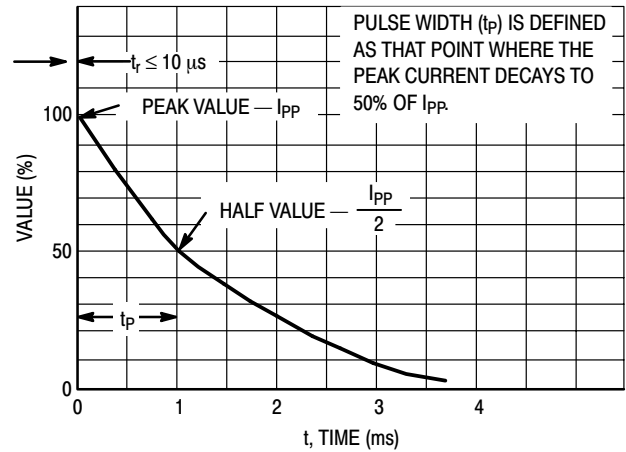

Figure 5. Pulse Waveform
- Peak Power – 40 Watts @ 1.0 ms (Bidirectional), per Figure 5. Waveform
1. Non-repetitive current pulse per Figure 5. and derate above $T_A = 25^\circ\text{C}$ per Figure 6.
5. Surge current waveform per Figure 5. and derate per Figure 6.